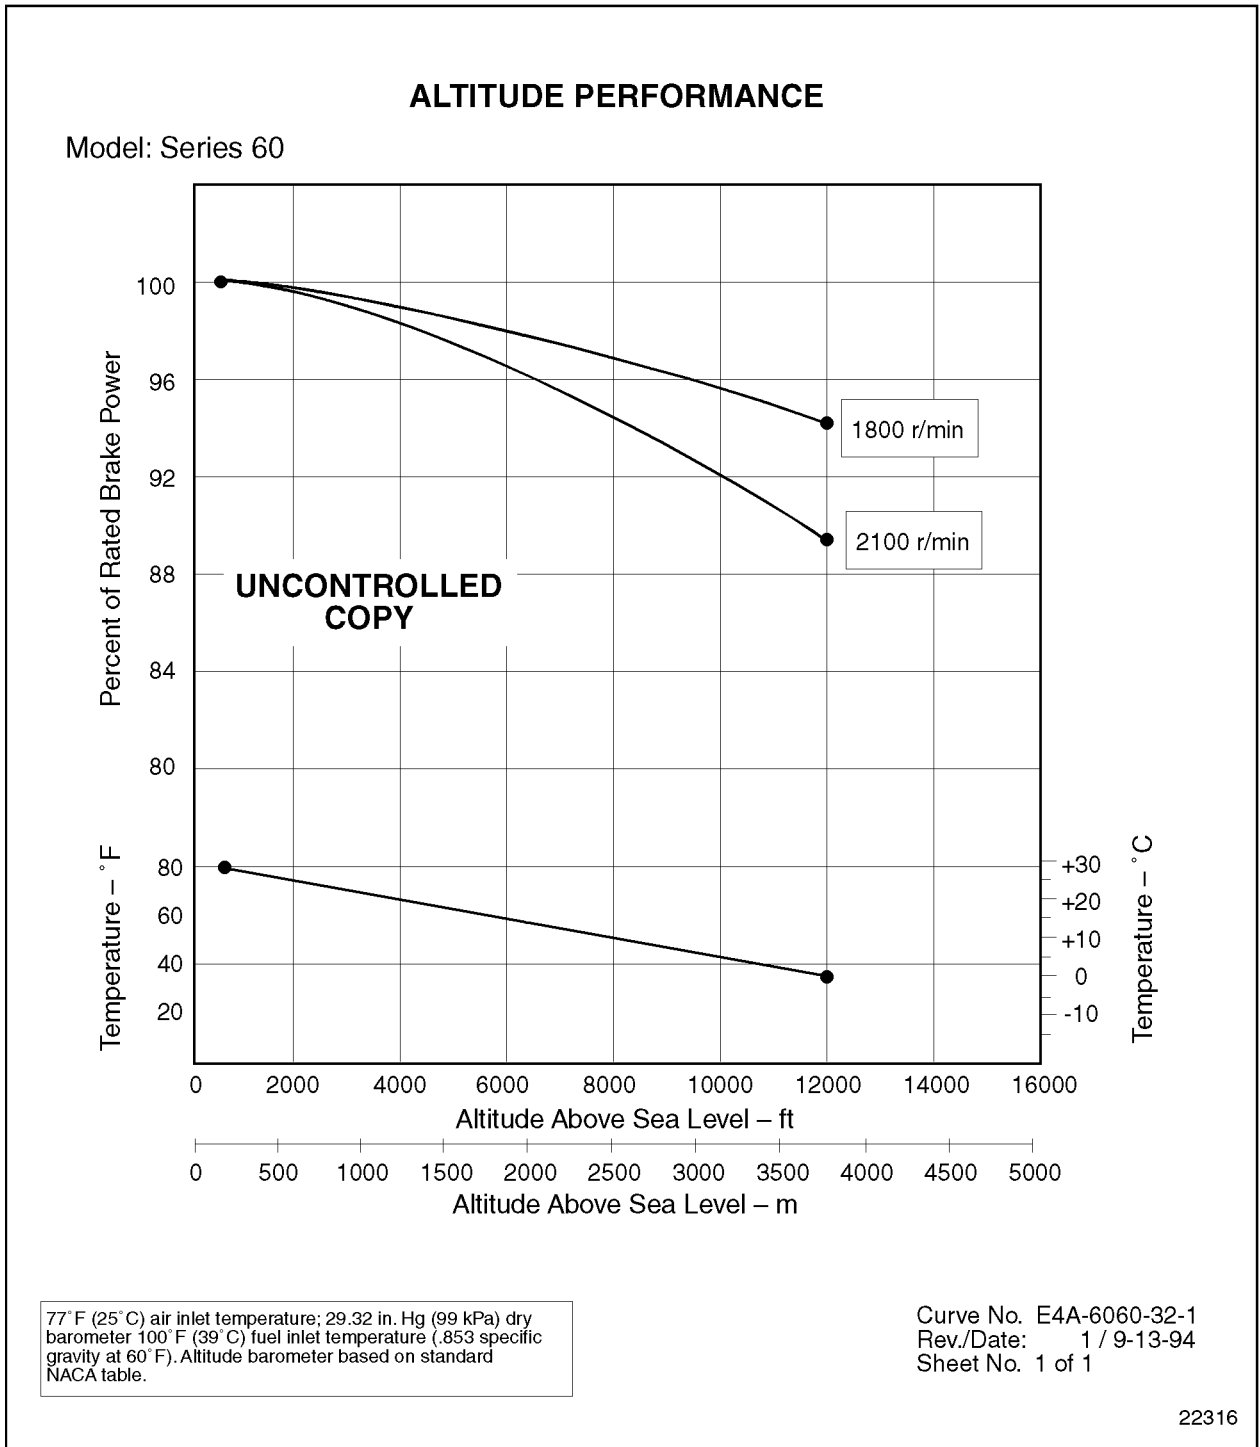

Figure 12-4 Altitude Performance Curve
1. Examine the altitude performance curve, see Figure 12-4.